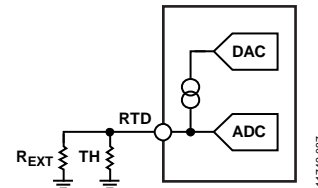

Figure 37. Temperature Measurement Using Thermistor
By connecting an external resistor (R_{EXT}) in parallel with the NTC thermistor (TH), a constant current can be used to achieve linearization (see Figure 37).